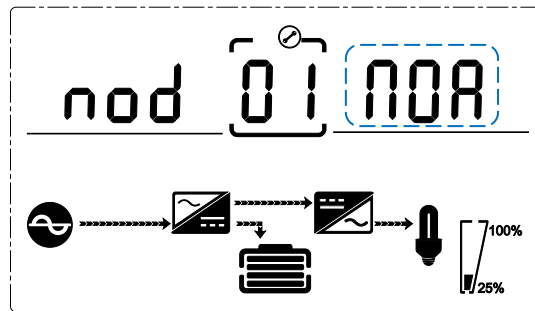

Fig. 4-12 Mode setting
After entering the setting menu, it will start on initial menu setting mode (01), and the menu setting number will be flashing. (Fig. 4-12).